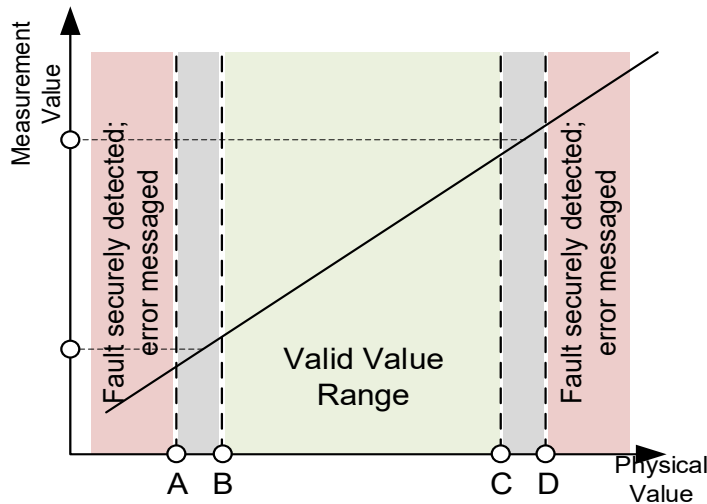

Figure 8. Fault Check Thresholds
The ZSSC4165D-01 provides several fault checks mainly based on the monitoring of a physical value; see Table 12 for a list of the application monitors. A fault is detected if the measurement value exceeds or falls below a given threshold. For every measurement, there is a specific transfer characteristic from the monitored physical value to the measurement value. The reverse function maps a threshold to a specific physical value. Because of the part-dependent measurement tolerance, a defined threshold spreads out over a certain range determined by a lower and an upper value. A fault is securely detected if the physical value falls below the lower value (A) coming from the lower threshold, or if it exceeds the upper value (D) coming from the upper threshold. Otherwise it is ensured that no fault is messaged if the physical value is in the range between the upper value (B) coming from the lower threshold and the lower value (C) coming from the upper threshold. See Figure 8 for an illustration of the thresholds and Table 11 for the definitions of A, B, C, and D.